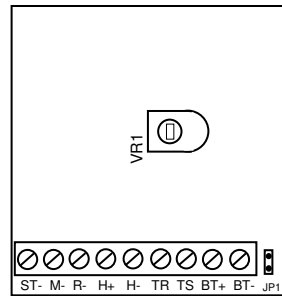

Figure 1. Connections and Timer Selection Jumper
- 3) If Lo facility is used, activate keypad on control panel and check low volume from sounder. Adjust VR1 for desired Lo volume level (see fig 1).